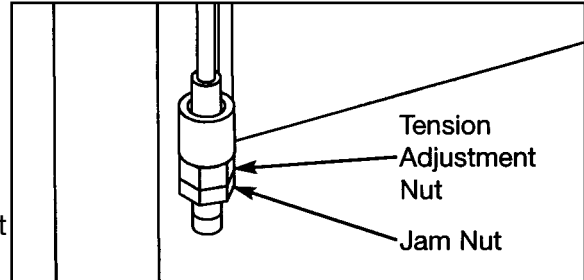

Figure 6
**1. Jam Nut Adjustment** - This type uses a jam nut and a tension adjustment nut at the cable cam end as the primary adjustment. The other end of the cable usually contains a roll pin adjustment. See Figures 6 and 8.